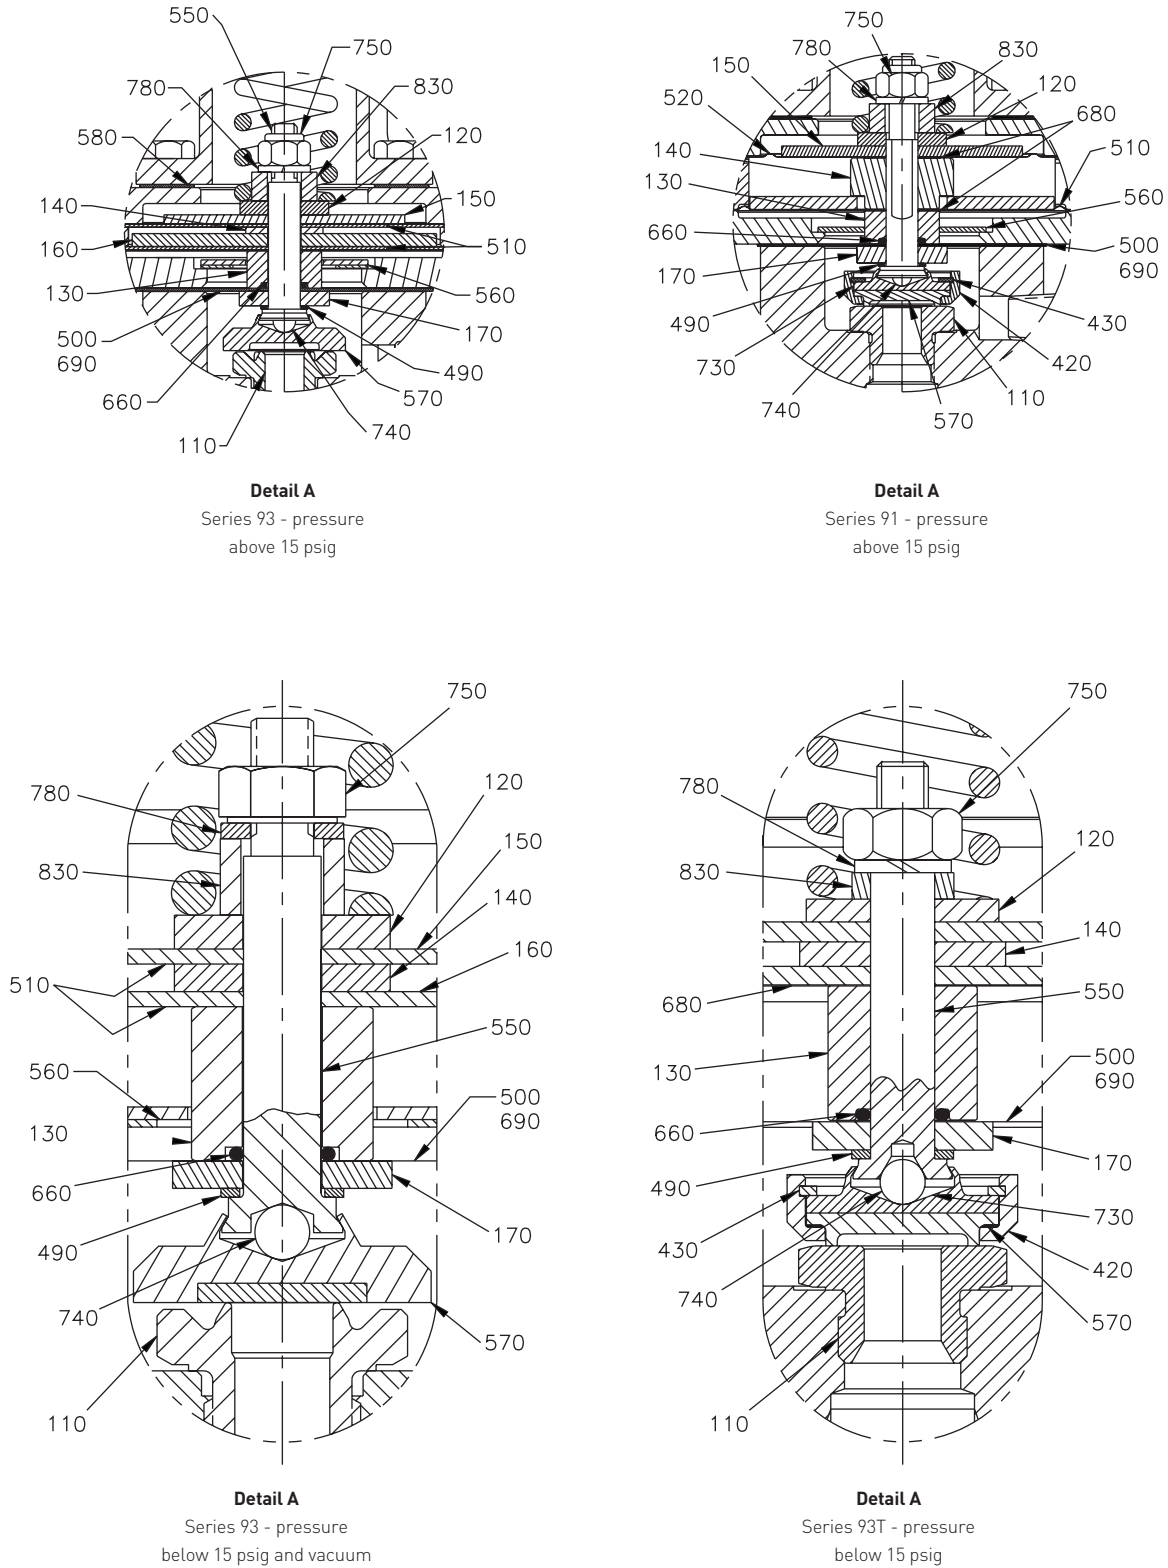

FIGURE 12
1. Remove cap (760) and adjusting screw (790) and adjusting screw seal (720) for vacuum pilot. Remove bonnet bolts (770), seals (700) for vacuum pilot, bonnet (200), spring (840) and spring washer (820).
2. On Series 91 and 93T pilots, loosen boost tube fitting (310) on boost tube (320) at boost tube connector bolt (270). Refer to detail B. Remove boost tube connector nut (300), washer (290), lower boost tube seal (590), seal retainer (280). Let these three parts slide down boost tube. Remove boost tube connector bolt (270), upper boost tube seal (590) and seal retainer (280).
3. On Series 93 pilot, loosen boost tube fitting (310) on boost tube (320) at boost tube connector bolt (270). Refer to detail B. Remove boost tube connector nut (300), washer (290), lower boost tube seal (600) Let these three parts slide down boost tube. Remove boost tube connector bolt (270) and upper boost tube seal (590).
4. Remove case bolt nuts (260), washer (250) and bolts (240). Remove upper case (210).
5. On Series 91 and 93T pilot. Hold hex spacer (120) with a shortwell 3/4" socket that has the ratchet area bored out and inserting another socket into the bored out hole, loosen.
6. Remove parts in the following order: hex spacer (120), sense plate (150), upper gasket (650), sense diaphragm case gasket (650), spindle gasket (680), sense spacer (140), boost plate (160), spacer ring (230), diaphragm gasket (620), boost diaphragm gasket (680) (See Figure 12, detail A)
7. On Series 93 pilot. Hold hex spacer (120) with a shortwell 3/4" socket that has the ratchet area bored out and inserting another socket into the bored out hole, loosen.
8. Remove parts in the following order: hex spacer (120), sense plate (150), sense diaphragm (510), upper gasket (650), sense spacer (140), boost plate (160), spacer ring (230), diaphragm gasket (620), boost diaphragm gasket (510), boost spacer (130), check plate (560) and spindle seal (660). (See figure 12, detail A)
9. Remove boost tube (320) from body (100) and lower boost tube seal (590/600(93T)) from boost tube (320).
10. Remove spindle diaphragm (500) and gasket (690) for 93T pilot and spindle/disc assembly (550) from body (100).
11. Remove spindle diaphragm plate (170) and shim washer(s) (490) from spindle/seat assembly (550).